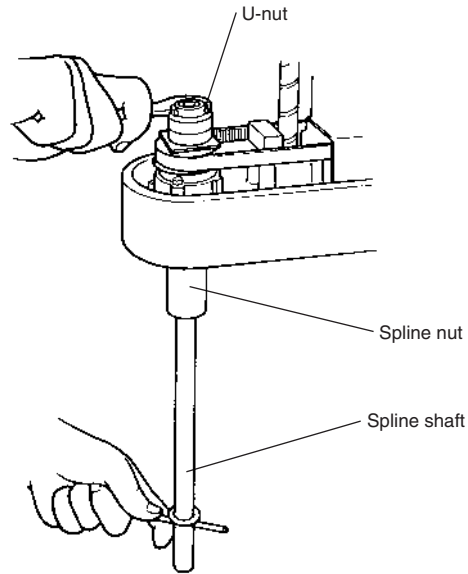

Fig. 5-29
(See Fig. 5-29.)
- 21) Insert the bearing mount plate and bearing onto the spline from the top, and tighten the U-nut to secure the bearing. (Utilize the $\phi 7$ through-hole when tightening the U-nut like you did to loosen it.) (See Fig. 5-29.)